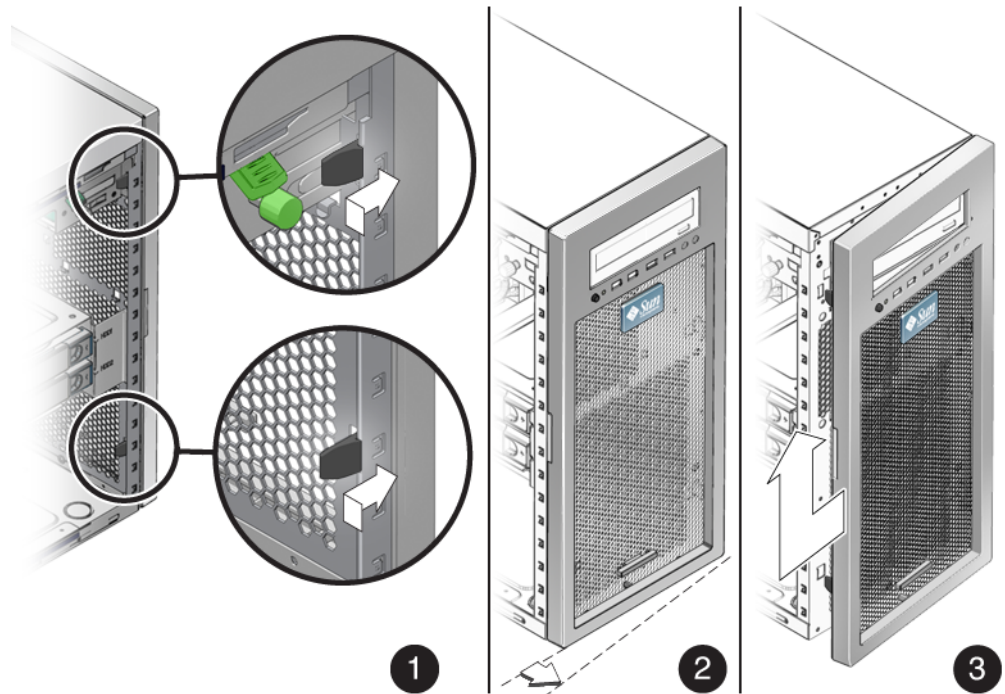

FIGURE 3–2 Removing the Front Bezel
- 6 Loosen the two captive thumbscrews located on the rear edge of the left-side access panel (see Figure 3–1).
- 2 **Unlatch the three left-side bezel tabs by gently pressing the side of each tab inward and slightly forward (see Figure 3–2).**
- 1 Insert the right side bezel hooks into the right side chassis slots. See Figure 3–3.